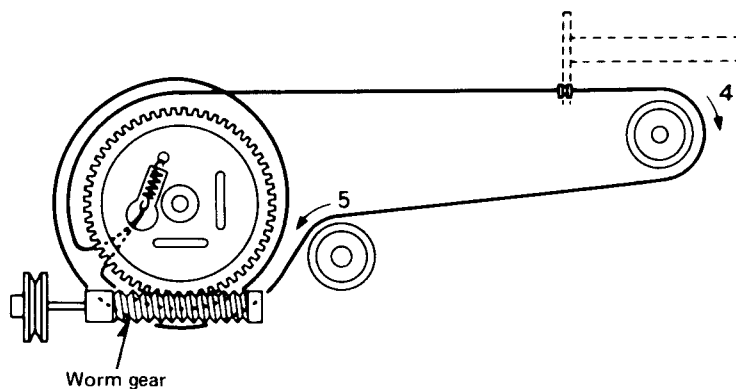

Fig. 16
4. Holding the rope set over the arm drive wheel, set the drive wheel and rope according to the steps 4 ~ 5 in Fig. 16.